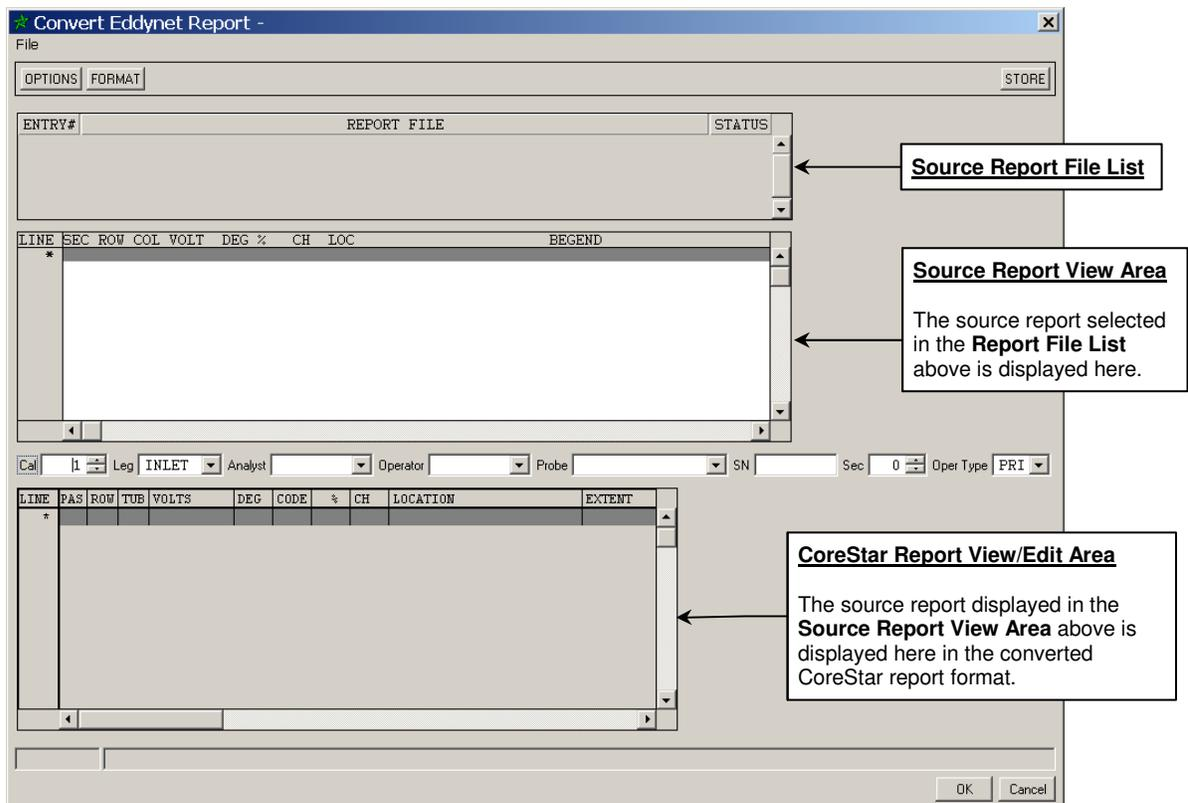
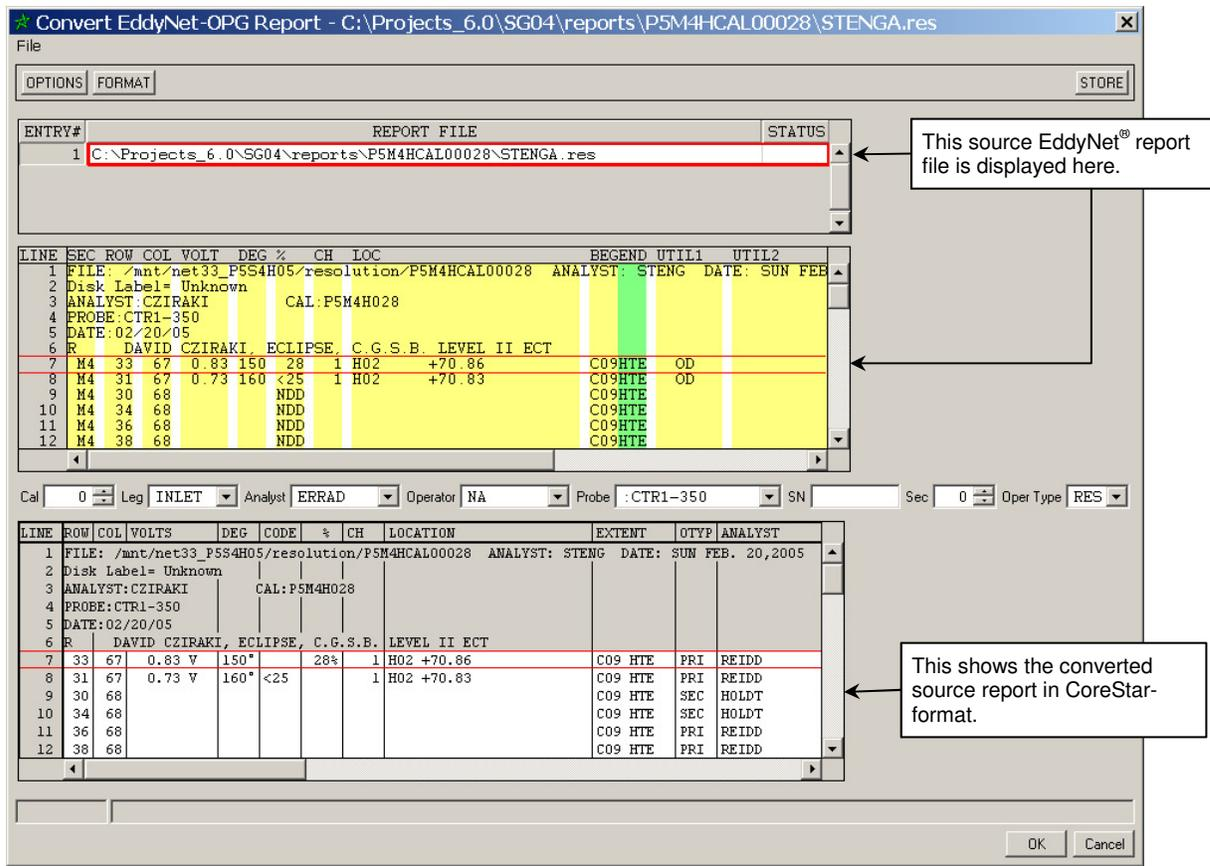
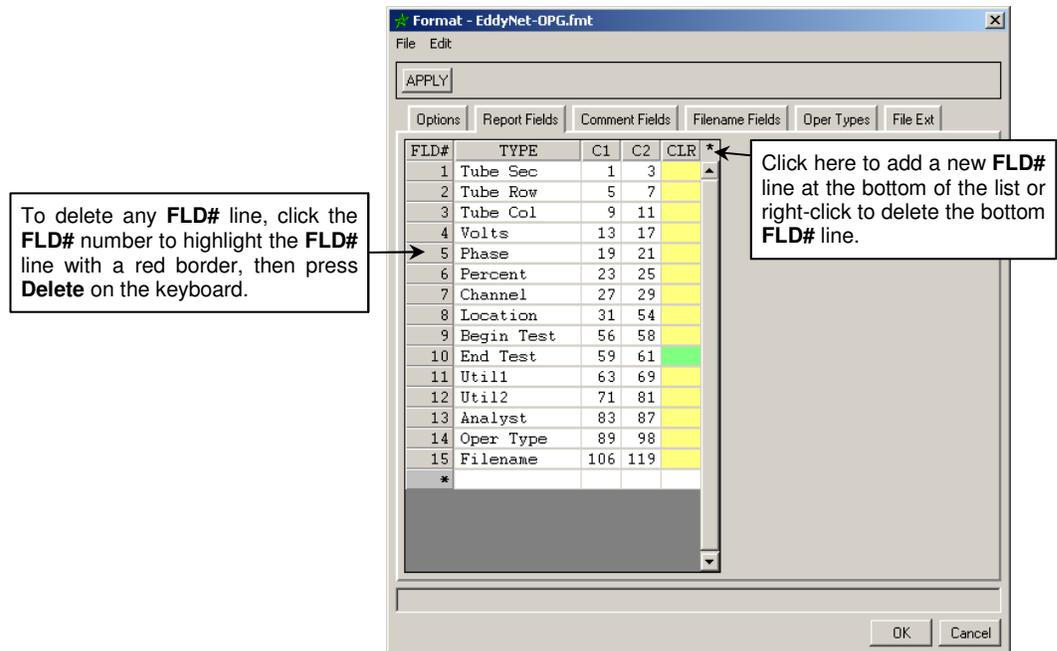
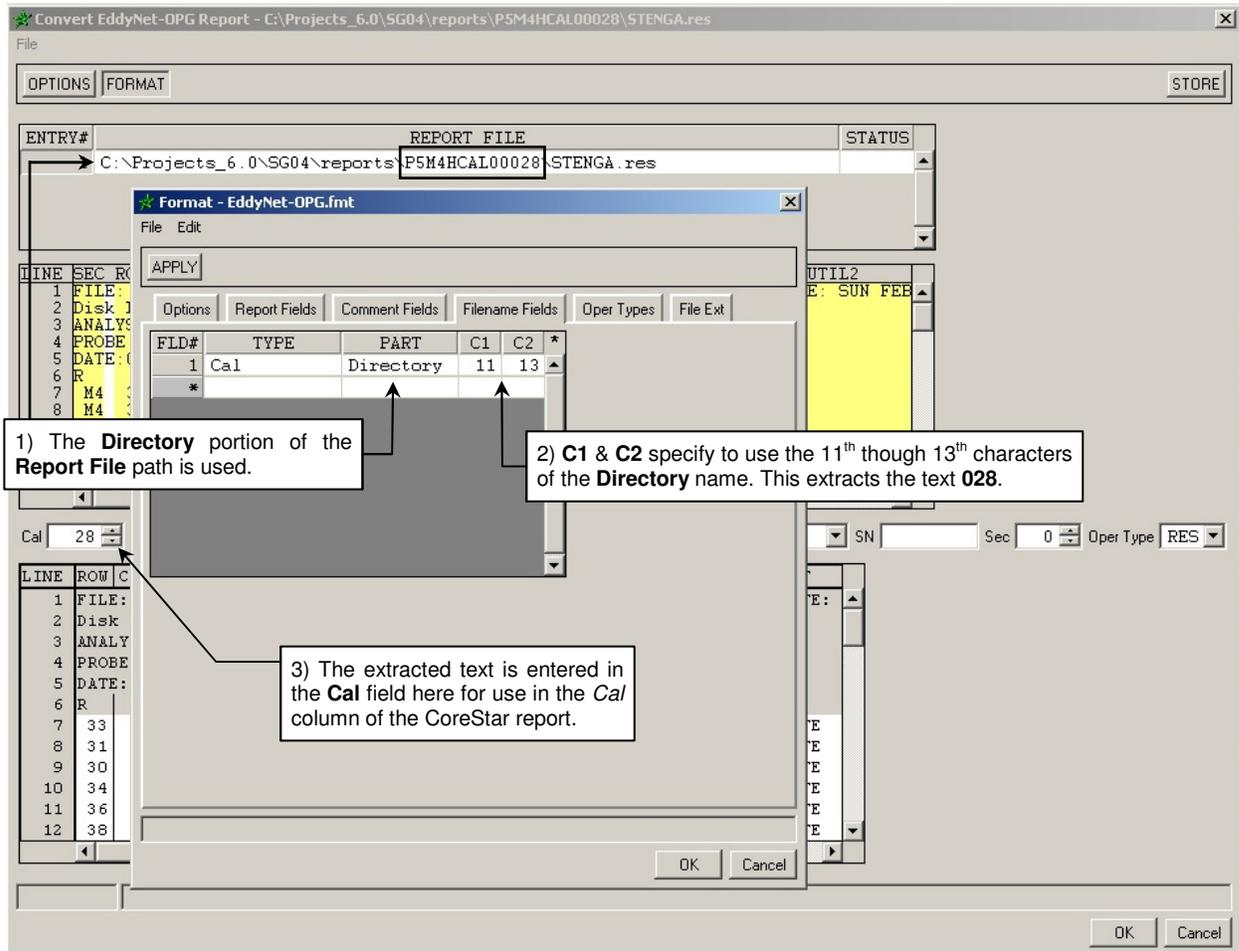

Figure 42. Util | Convert Report Dialog
Figure 44. Util | Convert Report Dialog with Source EddyNet® Report Opened
Figure 49. Util | Convert Report Dialog | Format Dialog | Report Fields Tab
Figure 51. Util | Convert Report Dialog | Format Dialog | Filename Fields Tab
- Util | Convert Reports** displays the dialog shown in Figure 42. This is a new feature in **EddyVision v6.0** that allows users to convert non-CoreStar or *foreign* analysis reports that are in text format to CoreStar binary format that can then be uploaded into the database. As previously mentioned, all non-CoreStar report import formats have been removed from **EddyVision v6.0**. This dialog provides a method to better handle the *ever-changing* foreign report formats in the industry by giving the user the ability to create custom report conversion routines as needed. In Figure 42, an EddyNet® format has been loaded as indicated in the title bar of the dialog. The filename (*without the file extension*) of the currently opened report converter file will always be shown in the title bar.
This topic will discuss the **Convert Report** dialog beginning with the menu selections, followed by on-dialog buttons, any underlying dialogs and menu selections on those dialogs, and the description and use of the three (3) main parts of the **Convert Report** dialog as shown in Figure 42. For the purpose of this discussion, the EddyNet® format (*included with EddyVision v6.0*) and associated report files will be used.
- **File | Open** (Ctrl+O) displays an **Open** dialog from which a source (*non-CoreStar*) report file can be opened. This presents the report file that needs to be converted to CoreStar-format. The source file must be in text format and of the fixed column width type, i.e., no delimiters can be used at this time. Comma-delimited support is planned for a future v6.x maintenance release. As shown in Figure 44, the source file contents will be displayed in the **Source Report View Area** of the **Convert Report** dialog, while the filename is displayed in the **Source Report File List**. In addition, the converted report, based on the currently loaded format, will be displayed in the **CoreStar Report View/Edit Area** (*see Figure 42*).
- **Options | Highlight Fields** enables (*green*) or disables (*gray*) whether the fields are highlighted in the **Source Report View Area**. This feature is a necessity when initially creating a new conversion format. The highlight color is controlled by the user in the **Format** dialog discussed next. Assuming you are reviewing this manual electronically, **Highlight Fields** is enabled in Figure 44 as indicated by the columns that are highlighted yellow and green.
- **Options Tab | Header Lines** specifies how many lines from the top of the source report that should be skipped before valid report entries begin. For example in Figure 44, the header makes up the first six (6) lines of the source report in the top of the **Convert Report** dialog; therefore, a value of '6' should be entered in the **Header Lines** field of the **Options** tab. Note in Figure 44 that the corresponding six (6) lines in the CoreStar report in the bottom of the **Convert Report** dialog are grayed-out.
The **Report Fields** tab on the **Format** dialog is shown in Figure 49. This is one of the most important parts of the report converter in DBMS v6.0. This interface is used to specify where parts of each source report line goes in the CoreStar report during conversion. For example in Figure 49, the text in columns 5 through 7 of the source report will fill the *Row* column in the CoreStar report for each valid report entry. Each column of the **Report Fields** tab is described below.
- **Report Fields Tab | FLD#** is an abbreviation for ‘field number.’ This column simply increments the **FLD#** for each new line added to the **Report Fields** tab. To add or delete **FLD#** lines, please review Figure 49. To *Undo* all changes, simply click **Cancel**, then click **No** on the message box that appears.
- **Report Fields Tab | Type** specifies the column of the CoreStar report where the text indicated by **C1** and **C2** from the source report will reside after conversion. Click or right-click a **Type** field to toggle through the available columns in a CoreStar report. Middle-click a **Type** field to set it to *Skip*. For example in Figure 49, the information for the CoreStar report *Row* column will be extracted starting with the 5th column (**C1**) and ending with the 7th column (**C2**) in the source report. The **C1** and **C2** values are inclusive.
- **Report Fields Tab | C1** specifies the beginning column of a range of the source report that will be used to fill the column specified in the **Type** field for a given **FLD#**. Click to increase by *1*, Shift+click to increase by *10*, Ctrl+click to increase by *100*, and middle-click to reset to *1*. Alternatively, right-click to decrease by *1*, Shift+ right-click to decrease by *10*, and Ctrl+ right-click to decrease by *100*. For example in Figure 49, the information for the CoreStar report *Volts* column will be extracted starting with the 13th column (**C1**) and ending with the 17th column (**C2**) in the source report. The **C1** and **C2** values are inclusive.
- **Report Fields Tab | C2** specifies the ending column of a range of the source report that will be used to fill the column specified in the **Type** field for a given **FLD#**. Click to increase by *1*, Shift+click to increase by *10*, Ctrl+click to increase by *100*, and middle-click to reset to *1*. Alternatively, right-click to decrease by *1*, Shift+ right-click to decrease by *10*, and Ctrl+ right-click to decrease by *100*. For example in Figure 49, the information for the CoreStar report *Phase* column will be extracted starting with the 19th column (**C1**) and ending with the 21th column (**C2**) in the source report. The **C1** and **C2** values are inclusive.
- **Report Fields Tab | CLR** specifies the background color of the column defined by **C1** and **C2** in the source report. To use this feature, click in any **CLR** field to toggle between the two (2) default shades of gray, middle-click to set the background color to white, or right-click to pick your own background colors. The same button clicks on the **CLR** title field will perform the same operations, but for all the fields at once.
As you modify the **C1** and **C2** fields, you will see them dynamically highlight with the selected background colors in the source report. Fields can be adjacent and even overlap. This is where using different background colors or shades of gray become extremely useful. For example, in the *Eddynet-OPG.fmt* shown in Figure 49, *Begin Test* and *End Test* have been assigned two (2) different colors. These are adjacent columns in the source report as well. To see the effect of the highlight colors for these two (2) columns, look at the *BEG* and *END* columns of the source report in Figure 44, which can best be viewed in the PDF version of this manual.
Finally, if the **Percent** column of the source report contains both numeric values (*percent*) and alpha characters (*3-letter codes*), the report converter will automatically parse numeric values into the **Percent** column of the CoreStar report, while the alpha characters will be parsed into the **Code** column of the CoreStar report. For example in Figure 49, note that there is only a **Percent** field **Type** in use for columns 23 through 25 of the source report and no **Code** field is listed. Now look at Figure 44 and you can see that the *28%* call was parsed out to the **Percent** column in the CoreStar report, while the *<25* and *NDD* codes were parsed out to the **Code** column.
- Comments Fields Tab | FLD#** is an abbreviation for ‘field number.’ This column simply increments the **FLD#** for each new line added to the **Comment Fields** tab. To add or delete **FLD#** lines, please review Figure 49. To *Undo* all changes, simply click **Cancel**, then click **No** on the message box that appears.
The **Filename Fields** tab on the **Format** dialog is shown in Figure 51. This interface allows the user to extract information from the source report filename displayed in the **Source Report File List** of the **Convert Report** dialog (see Figure 42).
- **Filename Fields Tab | FLD#** is an abbreviation for ‘field number.’ This column simply increments the **FLD#** for each new line added to the **Filename Fields** tab. To add or delete **FLD#** lines, please review Figure 49. To *Undo* all changes, simply click **Cancel**, then click **No** on the message box that appears.
- **Filename Fields Tab | Part** specifies the portion of the source report file path that will be used to extract the information specified in the **Type** field. The three (3) choices are **Directory**, **Filename**, and **Extension**. The **Directory** is the parent directory of the file.
For example in Figure 51, the source report file path displayed is:
For example in Figure 51, the information for the CoreStar report *Cal* column will be extracted beginning with the 11th character (**C1**) of the **Directory** portion of the source report file path displayed in the upper portion of the **Convert Report** dialog and ending with the 13th character (**C2**). The **C1** and **C2** values are inclusive.